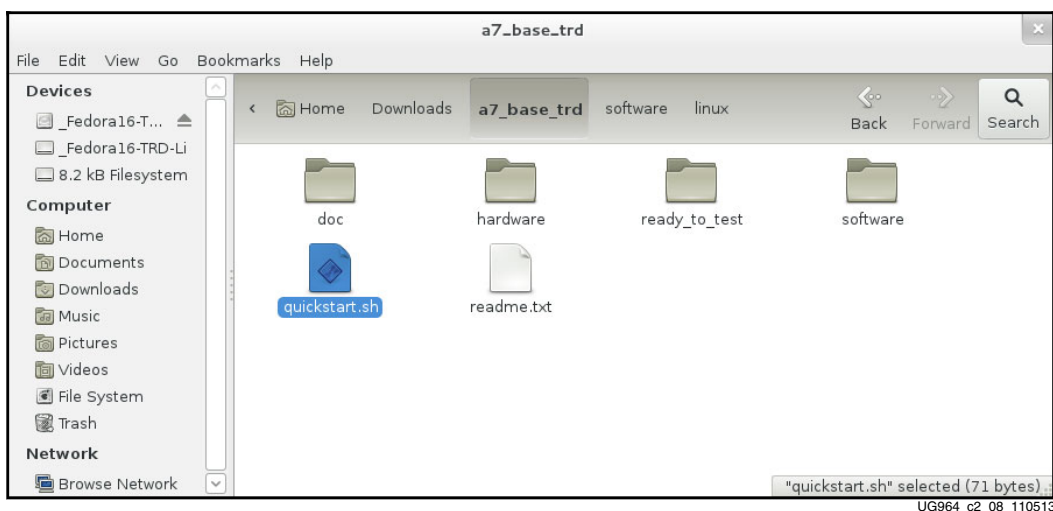

Figure 2-8: Structure of `a7_base_trd` Directory
6. Download the reference design from the AC701 Evaluation Kit Documentation webpage and copy the `a7_base_trd` folder to the desktop (or a folder of choice). Double-click the copied `a7_base_trd` folder. Figure 2-8 shows the content of the `a7_base_trd` folder.